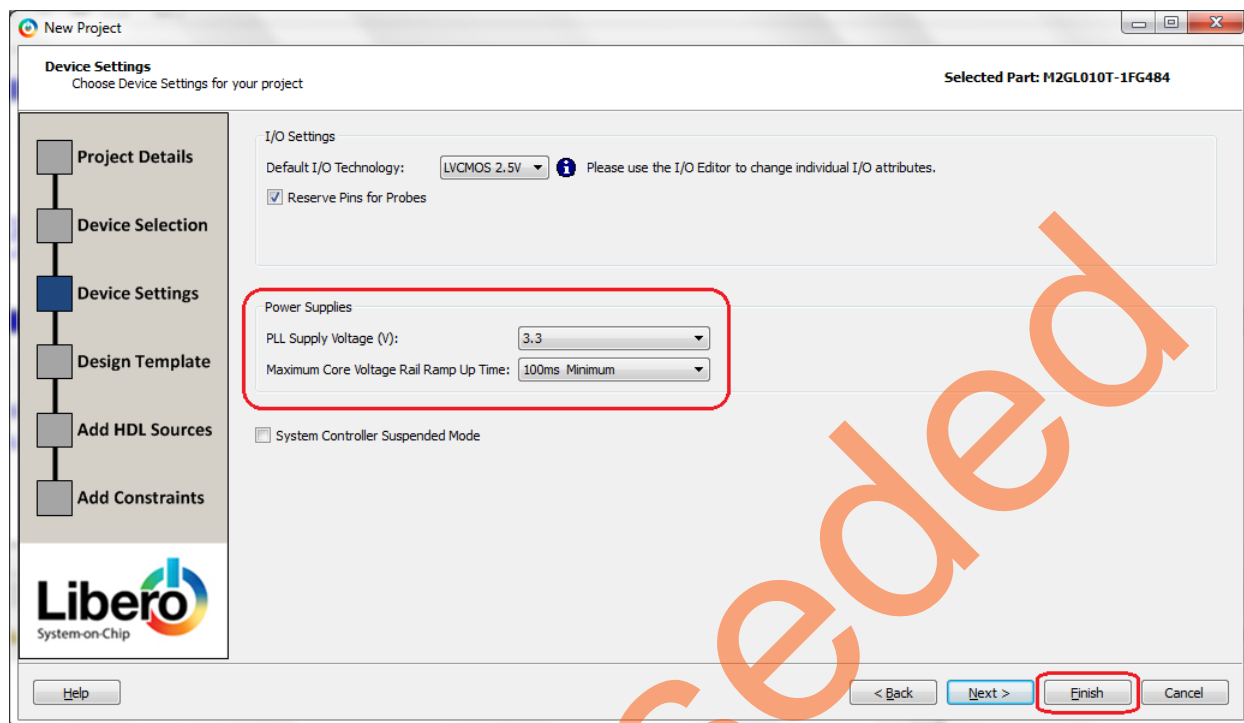

Figure 5 • New Project - Device Settings Page
7. Click **Next**. This opens **New Project - Device Settings** page as shown in Figure 5.
8. Select the following values in the Power Supplies section from the drop-down list (highlighted in Figure 5):
- **PLL Supply Voltage (V): 3.3**